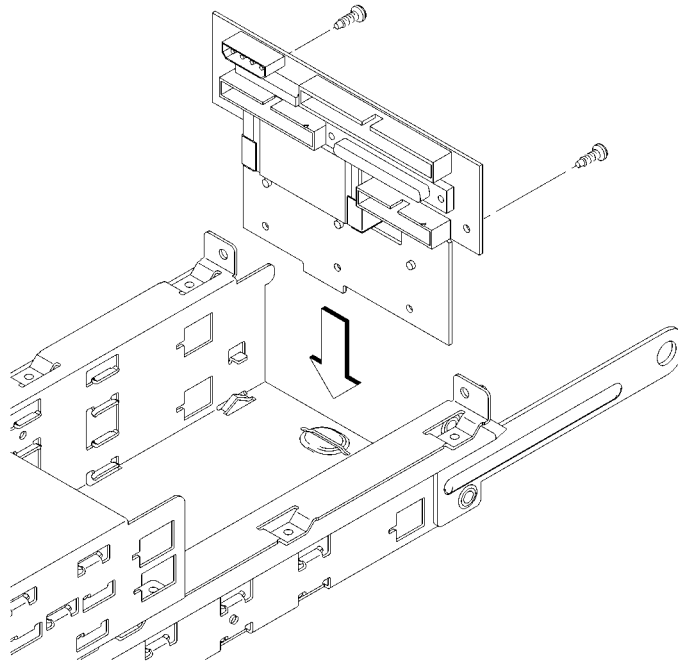

Figure 33
- 7 Slide the disk interconnect board into the storage tray, as shown in Figure 33.
- 9 Replace the disk interconnect board retaining screws and tighten them firmly, as shown in Figure 33.